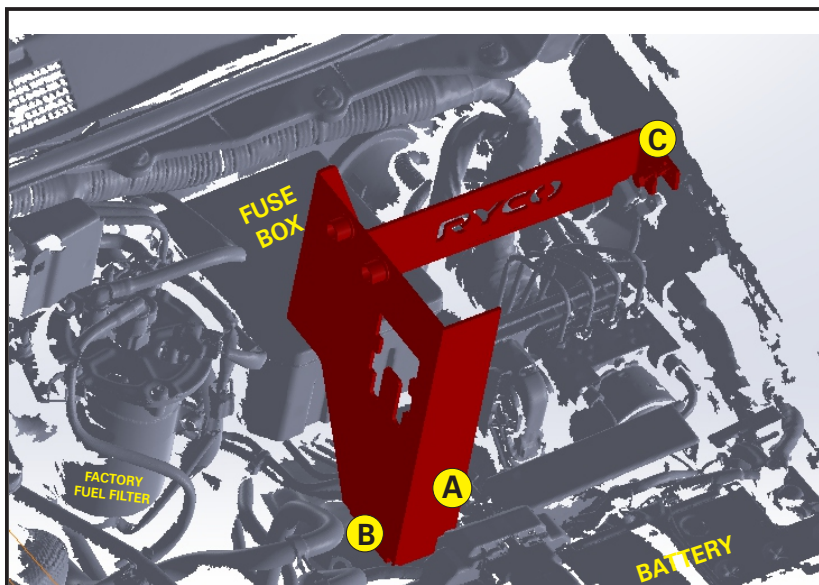
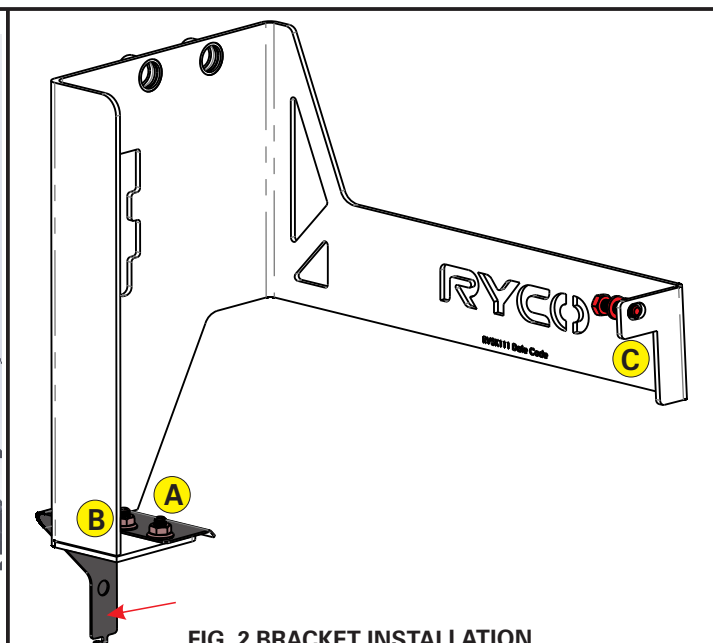

FIG. 1 BRACKET IN ENGINE BAY
FIG. 2 BRACKET INSTALLATION
1. Remove the two (2) factory M6 flange nuts holding the factory wire harness bracket (black), from Point **A** and **B**.
2. Locate the threaded hole at Point **C** on the side wall. Position the bracket in the engine bay as per Fig. 1, placing Point **A** and **B** onto factory studs and Point **C** onto the side wall. Place the factory wire harness bracket on top of the FB9809C bracket foot, as per Fig. 2.
4. Tighten all three (3) fasteners as per Fig. 2.